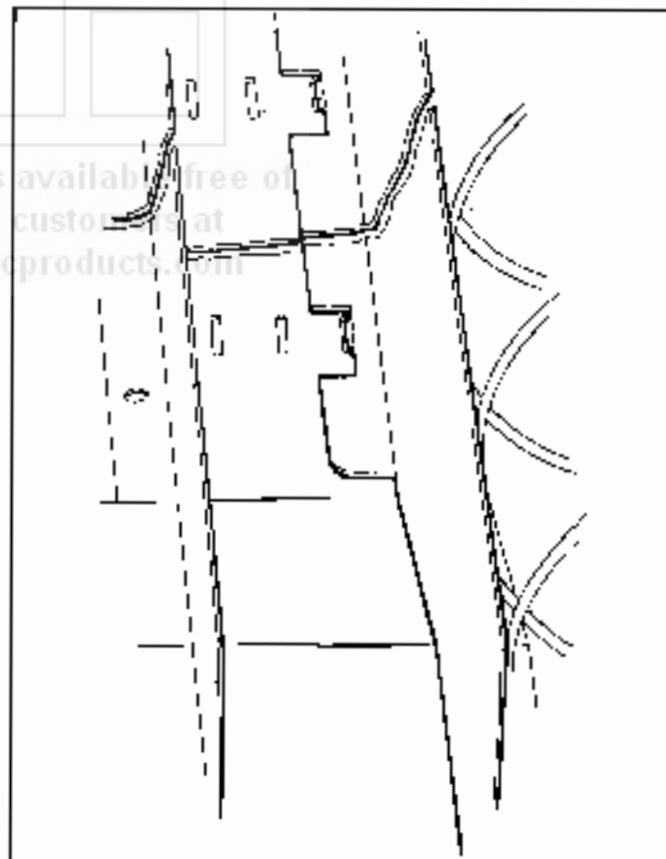

Figure 4. ALIGNMENT OF MOVEABLE PRODUCT SPACERS.
5. **PRODUCT SPACERS—4 SELECTION SHELF:** A product spacer is used to reduce the width of the product area and should be used on any 4-selection snack shelf where the product width is  $4\frac{1}{8}$ " or less. Spacers should fit within  $1/8$ " of the product but should not fit tight against the product. There are three positions in each snack space where these spacers can be placed. To install the spacer, align the lock ears (on the lower edge of the spacer) with one of the three sets of slots (one front and one rear). (See Figure 4). Push the spacer to the rear to allow the ears to enter the slots, then allow the spacer to move forward. Be sure the ears are in the same set of slots, front and rear. (See Figure 4). Continue loading all spirals, adjust width spacers where needed in the top shelf. Return the top shelf to the vend position and following this procedure load the remainder of the large spiral shelves. The shelf divider separating the right (lock side) column from the next column is movable to allow vending of products wider than  $5\frac{1}{8}$ " in the second column. If this is used the right column must be used to vend a narrower product.